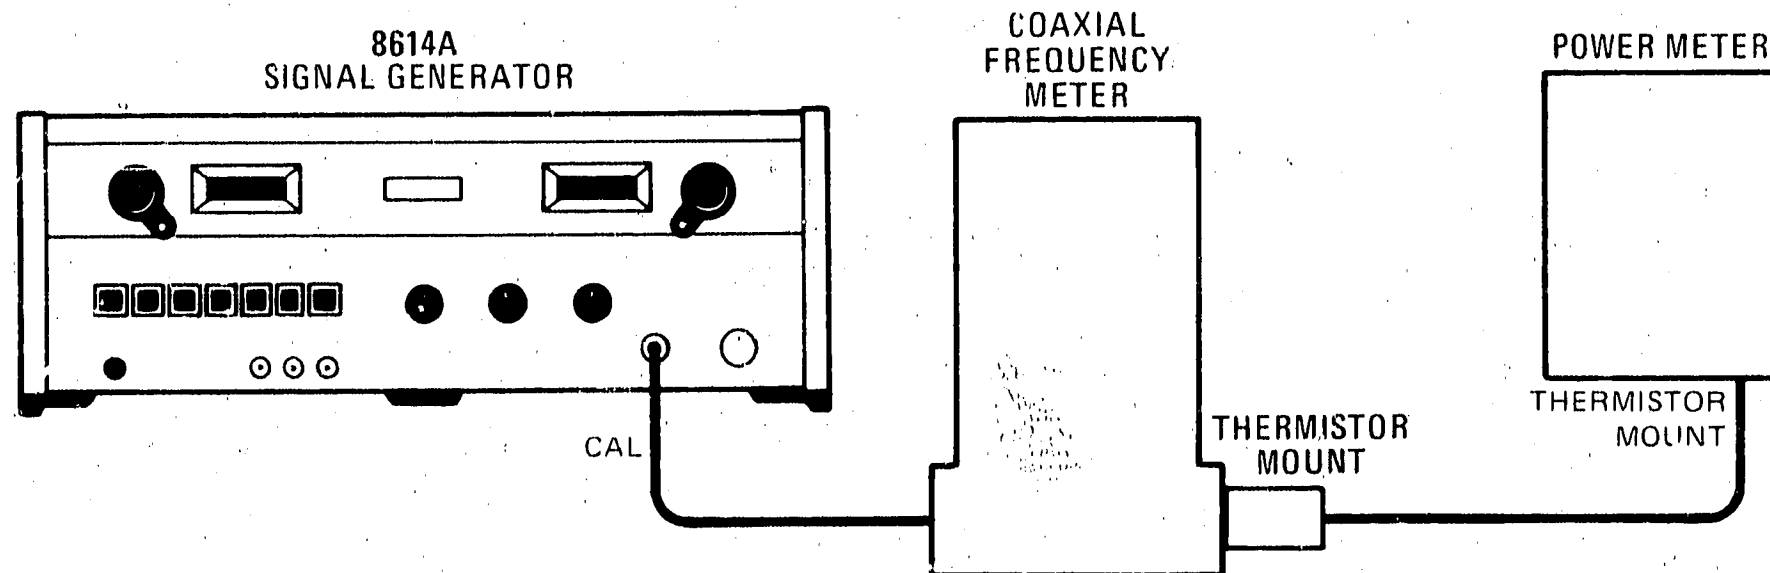

Figure 5-1. Frequency and Power Measurement
- a. Connect equipment as shown in Figure 5-1.
a. Connect instruments as shown in Figure 5-1, omitting the frequency meter.
a. Connect instruments as shown in Figure 5-1, omitting the frequency meter and attenuator.